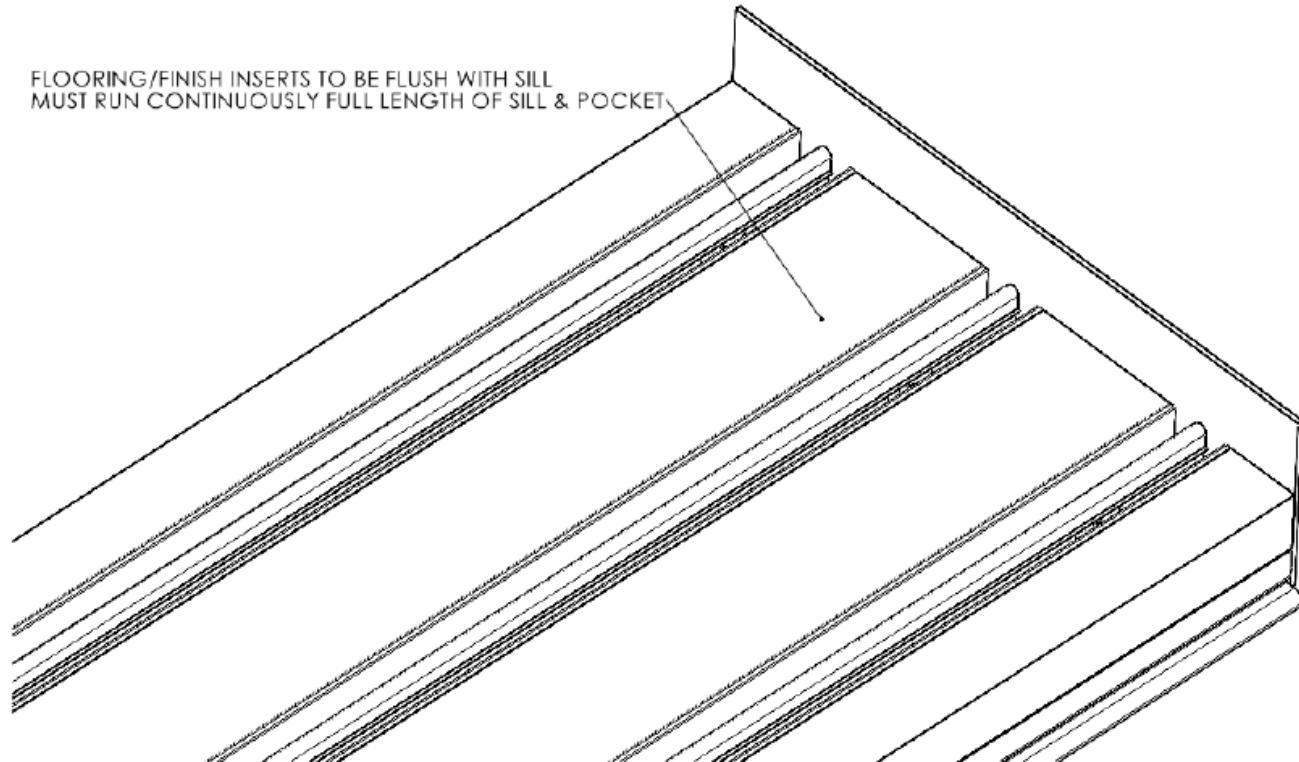

Figure 8
- No water management (sill with no weeps or drain fitting) (See **Figure 8**).
**NOTE: Sill types with limited water rating, no water rating, or no water management should only be used in well protected areas where a roof overhang will prevent driving rain and the exterior finish grade is stepped down and/or sloped away from the sill to help prevent water penetration. See Figure 8. Proceed to Step 10.**